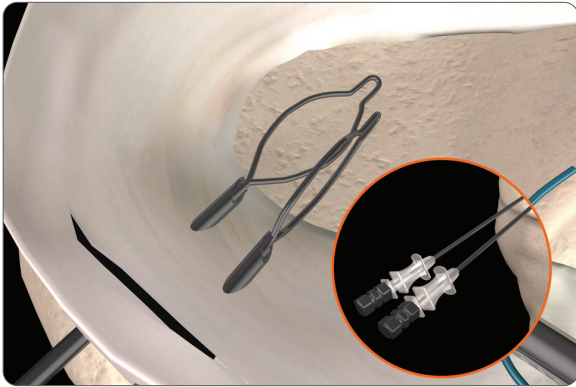

Figure 3
1. Remove both stylets and insert loops through the needles. Rotate the loop to accept the suture (**Figure 3**).